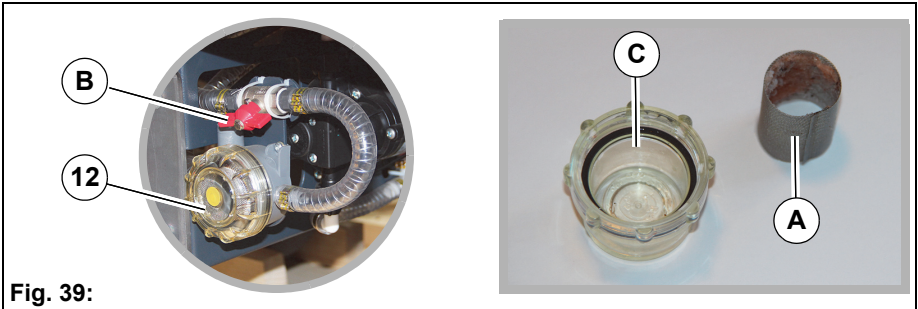

Fig. 39:
Check the filter sieve **Fig. 39-A** of the fresh water filter **Fig. 39-12** weekly and clean or replace it as required.
1. Close the ball cock **Fig. 39-B**.
2. Turn and remove the filter cover **Fig. 39-C**.
3. Remove the filter sieve **Fig. 39-A** from the filter housing and clean it under running water. Replace the filter sieve as required.